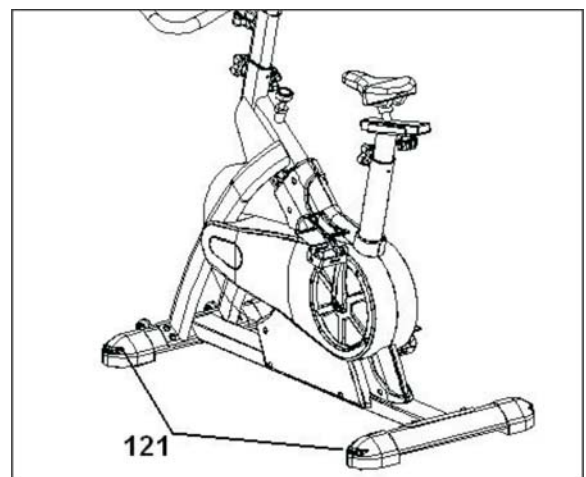

Fig. 12
Leveling: once the unit has been placed into its final position, make sure it sits flat and level on the floor. If needed, make adjustment for the footpads (121) by dialing the wheels (121) on the sides of the stabilizers (Fig. 12)